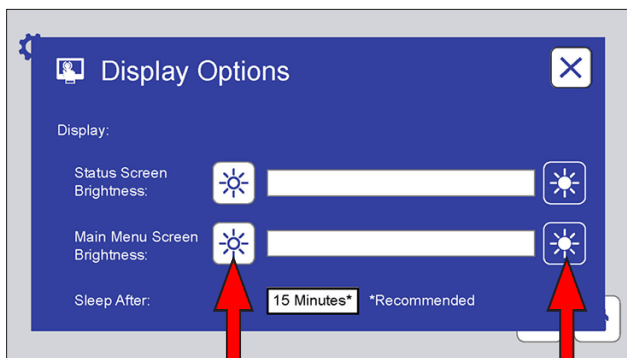

Figure 9.7e: The Display Options screen provides controls to adjust the brightness of the status and menu screens. Touch a brightness icon to adjust.
- o Display Options (Figure 9.7e)